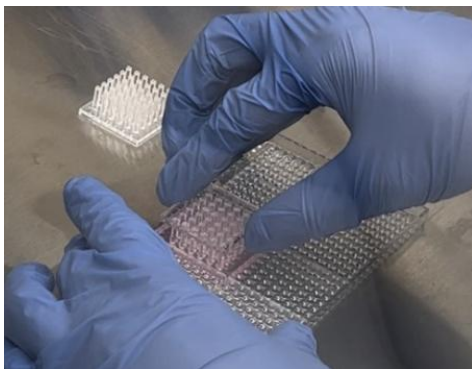

Figure 3. Stamping of the 36PillarPlate onto the LoadingPlate to load cells suspended in alginate on pillars.
- Stamp the 36PillarPlate on the LoadingPlate and press gently to load the cell-alginate mixture evenly on the entire pillar plate. Repeat this cell loading step for another pillar plate (**Fig. 3**).